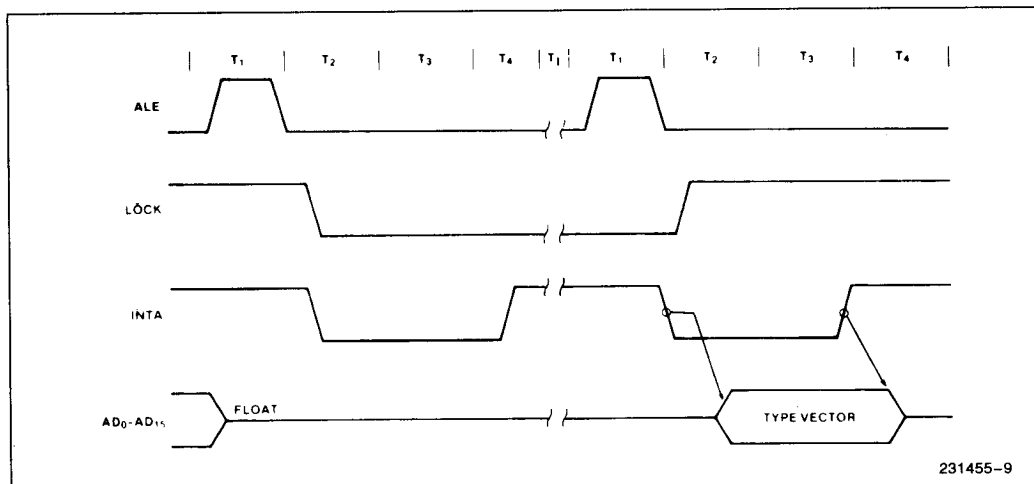

Figure 6. Interrupt Acknowledge Sequence
During the response sequence (Figure 6) the processor executes two successive (back-to-back) interrupt acknowledge cycles. The 8086 emits the LOCK signal from T2 of the first bus cycle until T2 of the second. A local bus "hold" request will not be honored until the end of the second bus cycle. In the second bus cycle a byte is fetched from the external interrupt system (e.g., 8259A PIC) which identifies the source (type) of the interrupt. This byte is multiplied by four and used as a pointer into the interrupt vector lookup table. An INTR signal left HIGH will be continually responded to within the limitations of the enable bit and sample period. The INTERRUPT RETURN instruction includes a FLAGS pop which returns the status of the original interrupt enable bit when it restores the FLAGS.
The basic difference between the interrupt acknowledge cycle and a read cycle is that the interrupt acknowledge signal (INTA) is asserted in place of the read (RD) signal and the address bus is floated. (See Figure 6.) In the second of two successive INTA cycles, a byte of information is read from bus